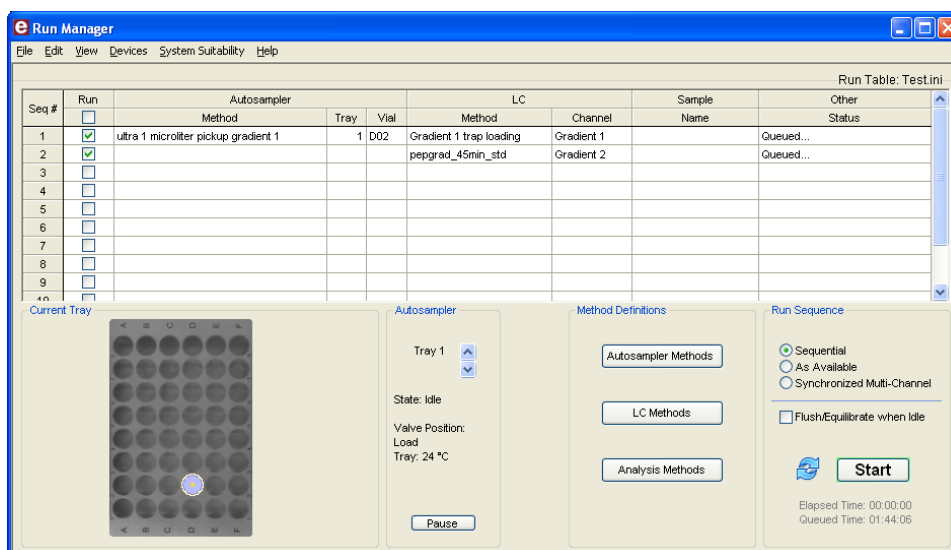

Figure 4-7 Run Manager Window
- Click **Run Manager** in the **Acquisition** window to open the Run Manager window (Figure 4-7).
- If you do not see the columns shown in Figure 4-7, select **Edit > Choose Column** and select the appropriate columns for display.